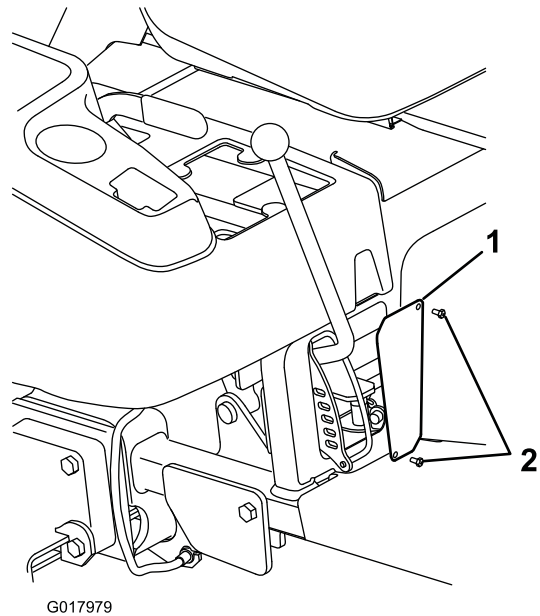

Figure 9
1. Install the new screen panel to the **back side** of the frame opening with 2 HWH screws (#10 x 1/2 inch) (Figure 9).